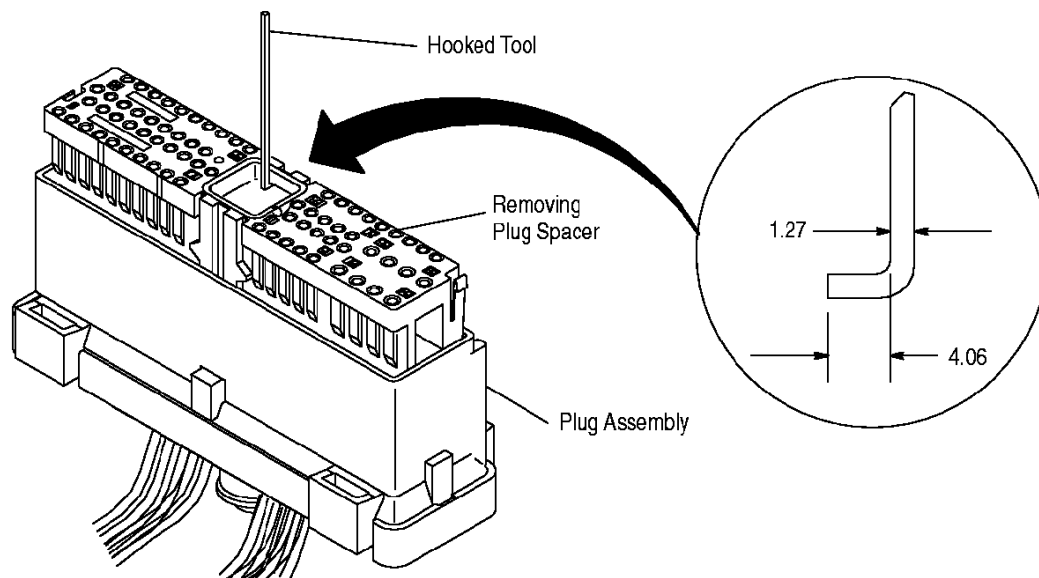

Figure 6
3. To remove the plug spacer, insert any hooked tool into the opening around the jackscrew. Rotate the tool to catch the underneath the spacer. Pull spacer straight out from the plug housing. See Figure 6.